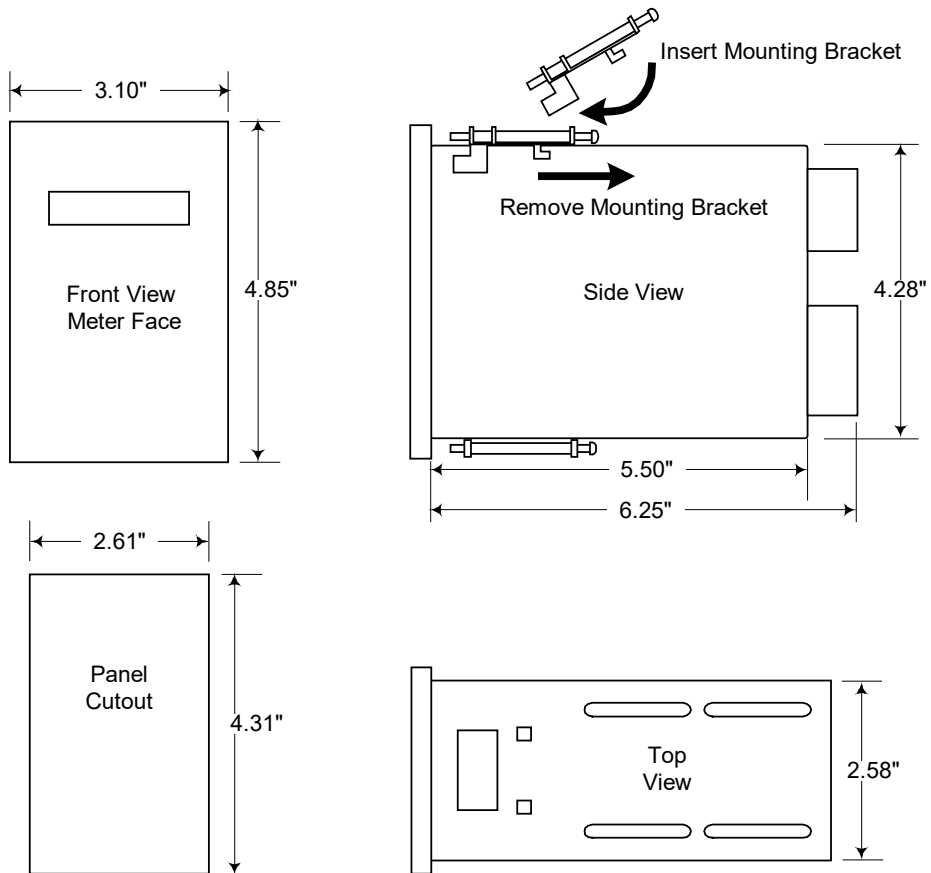

Figure 1: TR400-C and Panel Cutout Dimensions
1.	Cut a rectangular hole in the panel to the dimensions shown in Figure 1.
2.	Loosen the screws holding the mounting bracket to the TR400-C and remove it, as shown in Figure 1.
4.	Replace the mounting bracket and tighten the screws—do not over tighten. See Figure 1.